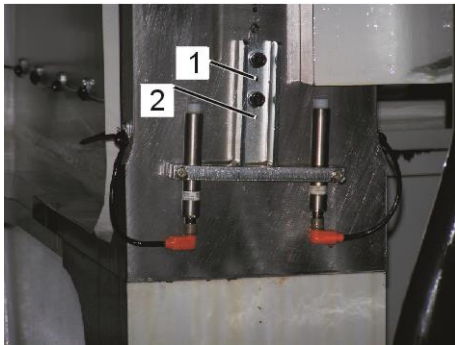

Fig. 33: Drillings for alignment pins
4. Drill two holes through the existing drill holes (Fig. 33/1+2) of each sensor bracket with a depth of 10 mm into the engine material by using the 5 mm drill.